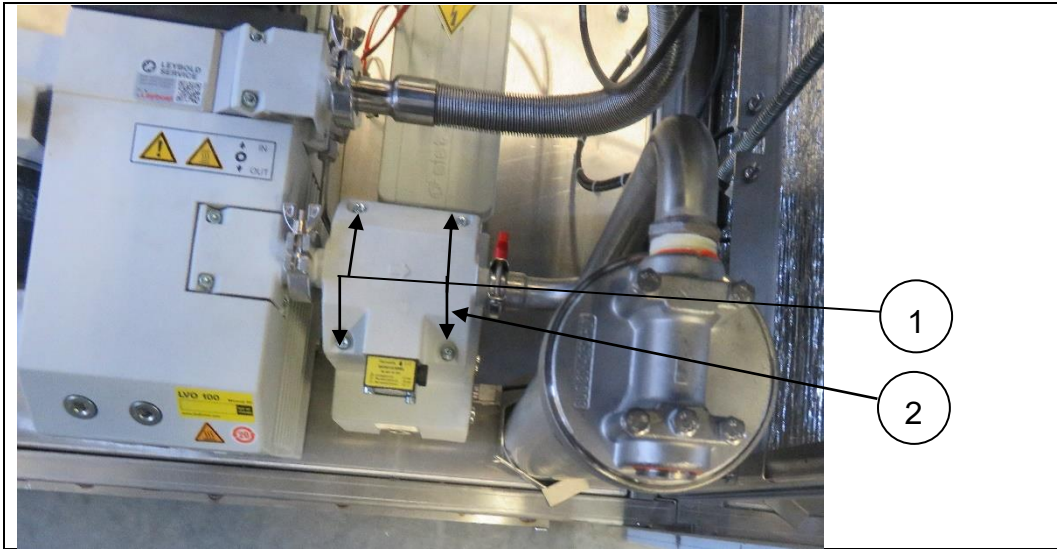

Figure 50 – Oil Separator Filter
1. Remove the 4 screws (1), (Figures 50).
2. Lift the oil separator filter cover (2).
5. Place the oil separator filter cover (2) in its Proper position.
6. Tighten the the 4 screws (1).